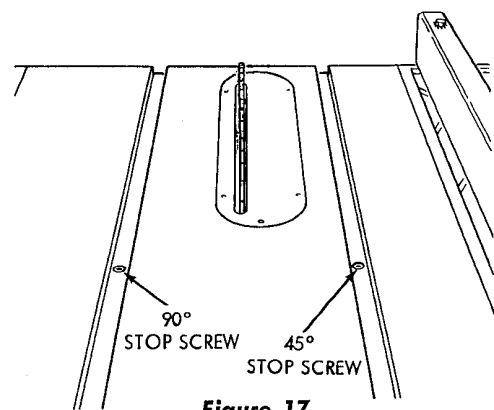

Figure 17
- (5) If the blade is not square with the table top, loosen the clamp knob (figure 15) and rotate the tilt crank to move the mechanism off the 90° stop. This can be accomplished by rotating the tilt crank until the pointer on tilt gauge indicates approximately 10 degrees. Rotate the 90° stop screw in table top with a 3/16-inch hex-"L" wrench to produce an approximate correction. (See figure 17.) Rotate the tilt crank until the saw blade is stopped by the 90° stop screw and recheck with the square for an exact 90° position of the saw blade. Continue these trial settings until the saw blade stops at exactly 90° with the table top.
- (2) If the angle between the saw blade and table top is not 45°, loosen the clamp knob and rotate the tilt crank counterclockwise until the pointer on tilt gauge indicates approximately 40°. Rotate the 45° stop screw in table top with a 3/16-inch hex-“L” wrench to produce an approximate correction. (See figure 17.) Rotate the tilt crank until the saw blade is stopped by the 45° stop screw and recheck for the exact 45° blade position. Continue these trial settings until the saw blade stops at exactly 45° with the table top.